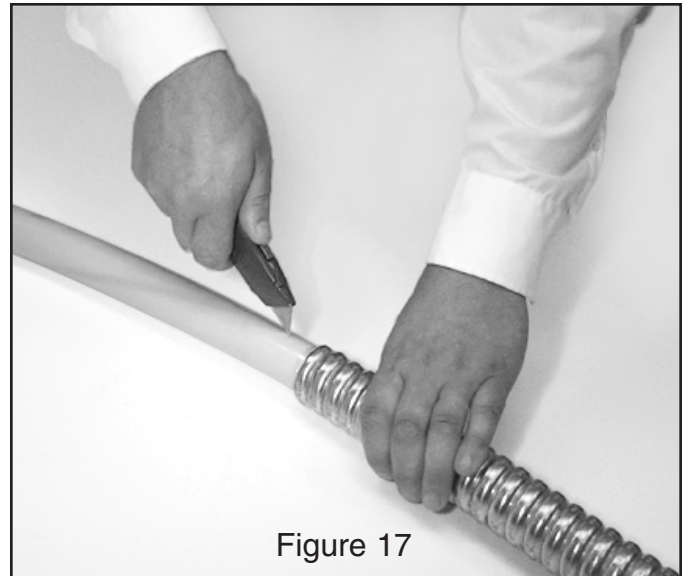

Figure 17
1. Mark where jacket is to be cut by wrapping tape around the cable as a guide. Use a knife to longitudinally cut back inner jacket appropriate distance. Leave inner jacket on where possible for additional protection. An adequate length of free conductor should be provided per NEC/CEC. Only cut 50% into jacket. Be careful not to cut insulation. (Figure 17)